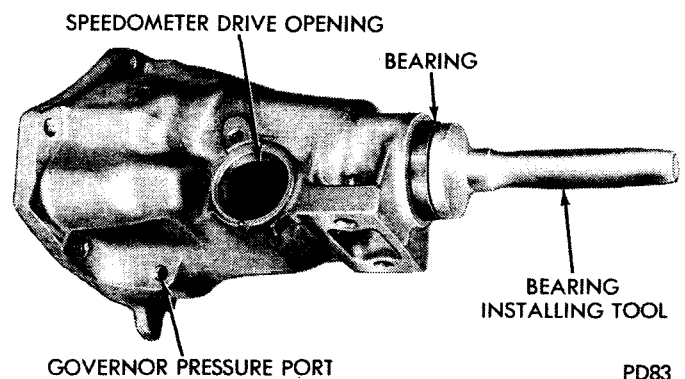

Fig. 31—Installing Bearing (Short Extension)
(3) Place new bearing in opening of extension housing. Using Tool C-3204, drive bearing into housing (Fig. 31). Install bearing retaining snap ring.
(1) Assemble governor body and screen to the support (if disassembled) and tighten bolts finger tight. Make sure oil passage of governor body aligns with passage in the support.
(2) Position support and governor assembly on the output shaft. Align assembly so valve shaft hole in governor body aligns with hole in the output shaft, then slide assembly into place. Install snap ring behind governor body (Fig. 31). Tighten the body to support bolts to 100 inch-pounds. Bend ends of lock straps over bolt heads.